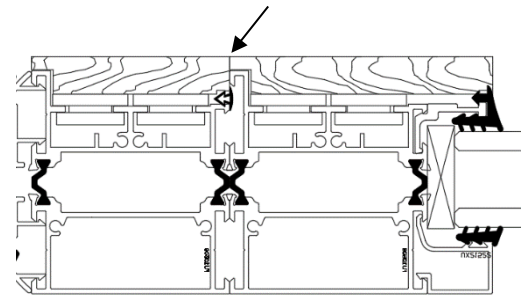

FIG. 16
- Prepare the two units that are going to be mullered together by adding a bead of silicone in between the two units. **(Fig.16)**